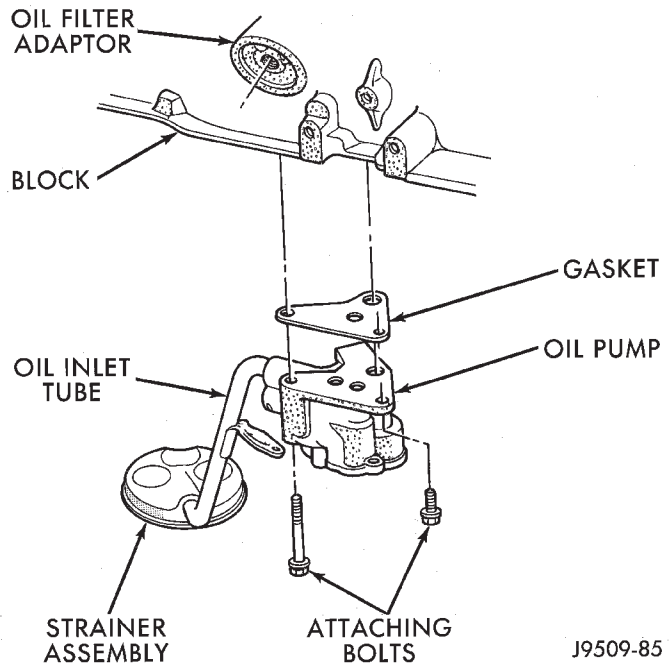

Fig. 59 Oil Pump Assembly
- (1) Drain the engine oil.
- (2) Remove the oil pan.
- (3) Remove the pump-to-cylinder block attaching bolts. Remove the pump assembly with gasket (Fig. 59).